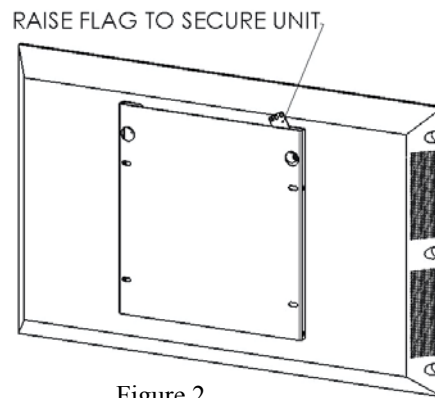

Figure 2
4. With the aid of another person, lift plasma display up to the Chief mount, aligning mounting buttons with the teardrop slots dependent upon the model plasma, the inside slots are for the Sony 32" and the outside slots are for the Sony 42", and setting into place (see Figure 2).